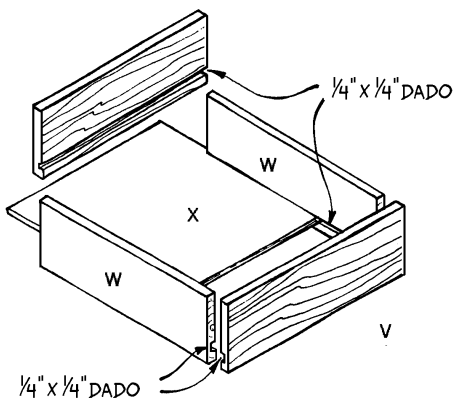

Figure 13
There are six drawers that fit into the drawer housing. Although the dimensions of the two bottom drawers differ from those of the four top drawers, each drawer is constructed identically. An assembly diagram is shown in *Figure 13*.
4. Cut one 11-1/4” x 16-1/2” Drawer Bottom piece (X) from 1/4-inch-thick plywood. Assemble the drawer as shown in *Figure 13* using glue and finishing nails. The decorative drawer front will be added later.
6. Cut the following pieces for one lower drawer from full-width 1 x 8 pine: two lower drawer front/back pieces (Y), each 11-3/4 inches long, and two lower drawer sides (Z), each 16 inches long.
8. Cut one 11-1/4” x 16-1/2” Drawer Bottom piece (AA) from 1/4-inch-thick plywood. Using glue and 3-penny finishing nails assemble the drawer as shown in *Figure 13*.